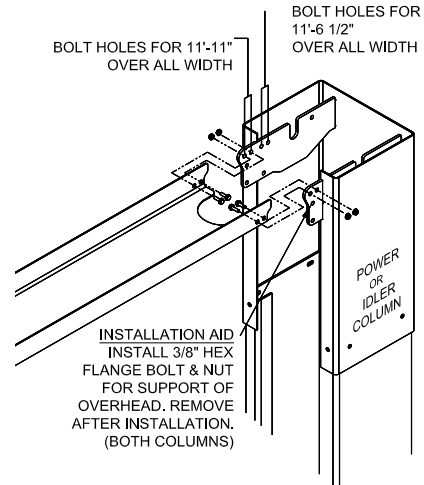

Fig 4 – Overhead Assembly
- 13) Before raising overhead into position install 4 each (2 per column) hex flange bolts and nuts in middle hole of column extension (**see Fig 4 Installation Aid**) for temporary support of overhead. Lift overhead assembly up into position and install with 8 each (4 per column) 3/8-16 x 3/4" lg hex flange bolts and hex flange nuts per side as shown in **Fig 4**.